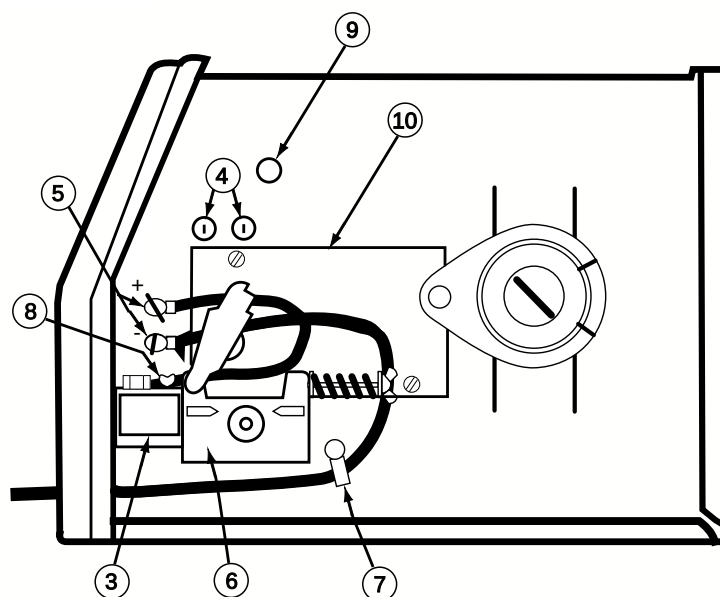

FIGURE A.2
Refer to Figure A.2.
2. Pass the end of the work cable that has the terminal lug with the smaller hole through the Work Cable Access Hole (1) in the case front.
3. Route the cable under the feedplate (6) and in front of the Wire Feed Motor.
4. **For GMAW Only:** Refer to Figure A.2. As delivered, the machine is connected for positive electrode polarity. This is the appropriate configuration for the GMAW (MIG) process. To complete installation, use the provided wing nut to connect the work cable's terminal lug to the negative (-) output terminal (2) located above the Wire Feed Gearbox (6). Make sure that both wing nuts are tight.
1. Refer to Figures A.2 and A.4. Unplug the machine or turn power switch to the OFF "O" position.